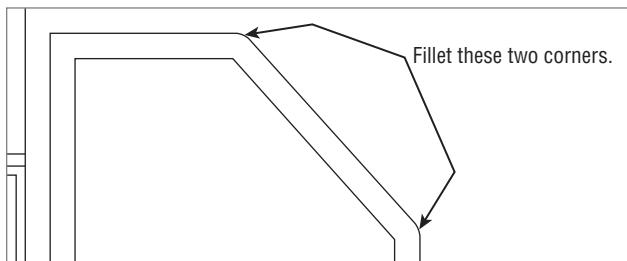

FIGURE 5.74 Fillet the two corners that extend into the cabin.
8. Start the FILLET command and set the Radius value to 3" (76); then fillet the two outside corners that project into the cabin (see Figure 5.74).